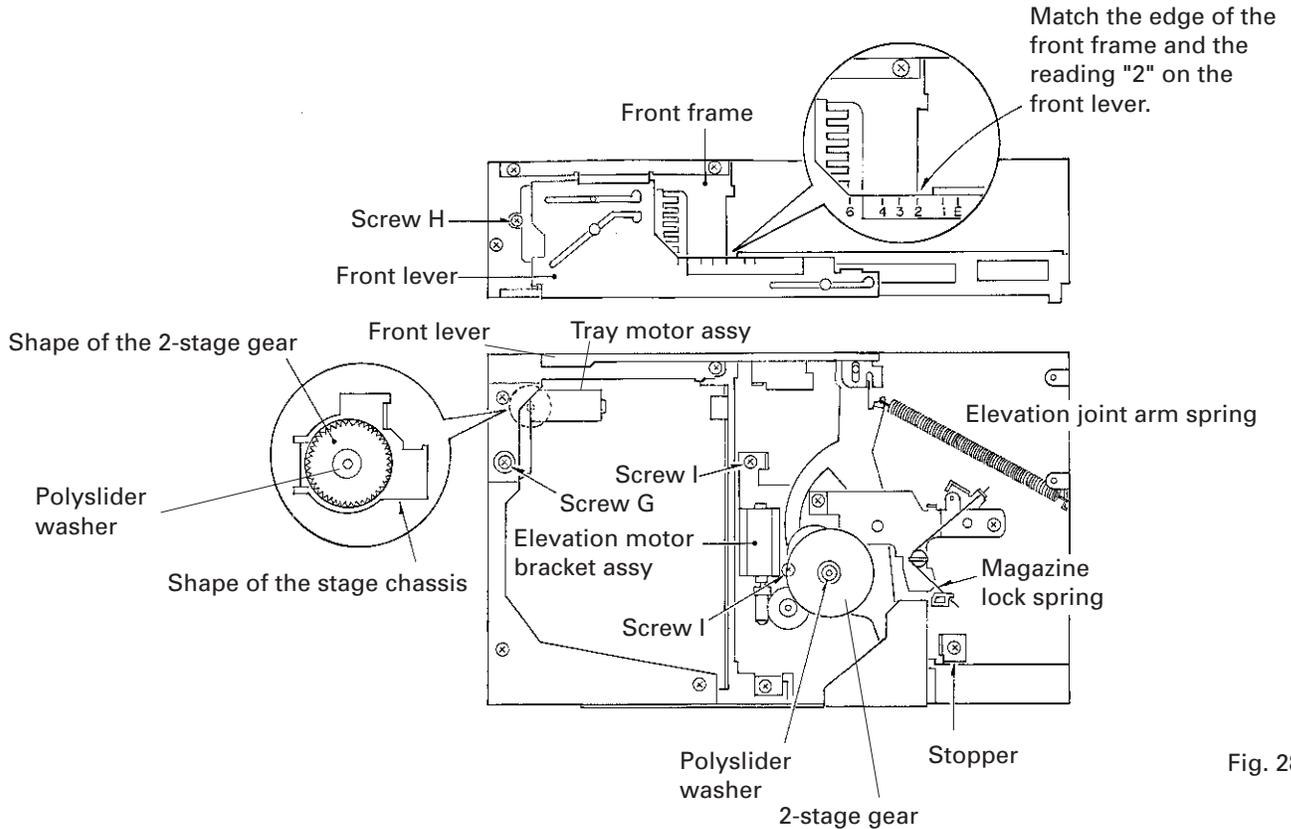

Fig. 28
### ● Removing the Tray Motor Assy (see Fig. 28)
### ● Cautions on Mounting the Tray Motor Assembly (see Fig. 28)
### ● Removing the Elevation Motor bracket Assy (see Fig. 28)
1. Remove the elevation joint arm spring.(See Fig. 28)
2. Remove the magazine lock spring.(See Fig. 28)
3. Remove the 2-stage gear.(See Fig. 28)